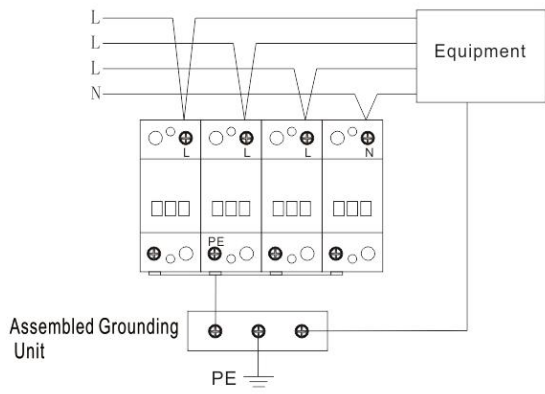

Figure 1: L-PE N-PE protection mode (4P) wiring diagram
It can be seen in figure 1 a schematic of the circuit generation for current impulses.
4. The wiring method for protection mode L-PE, N-PE (take 4P as an example) is shown in Figure 1, and the wiring method for protection mode LN-PE (take 3+1 as an example) is shown in Figure 2; the product has a remote monitoring and alarm function , the wiring method is shown in Figure 3 , and the product appearance size diagram is shown in Figure 4; the appearance of all products involved in the diagrams shall prevail in kind!